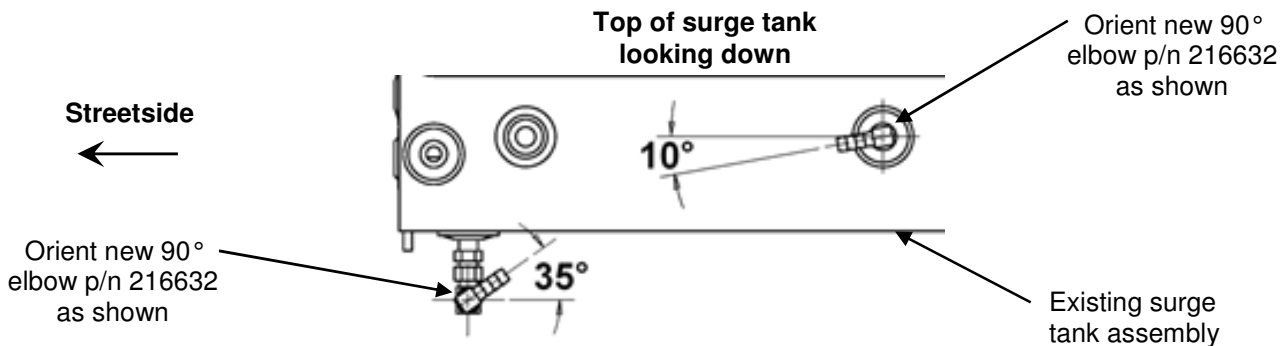

Figure 11: Surge Tank Fitting Installation
- 15. Install new 90° elbows p/n 216632 (x2) into the threaded surge tank port and gauge installed in Step 14g as per Step 19. Locate and orient as shown in Figure 11.